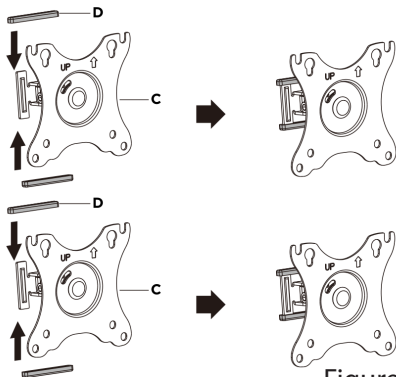

Figure 5
5. Place the **VESA Mount Caps (x4)** onto the top and bottom sides of each **VESA Mount Assembly (2)**. As shown in Figure 5.